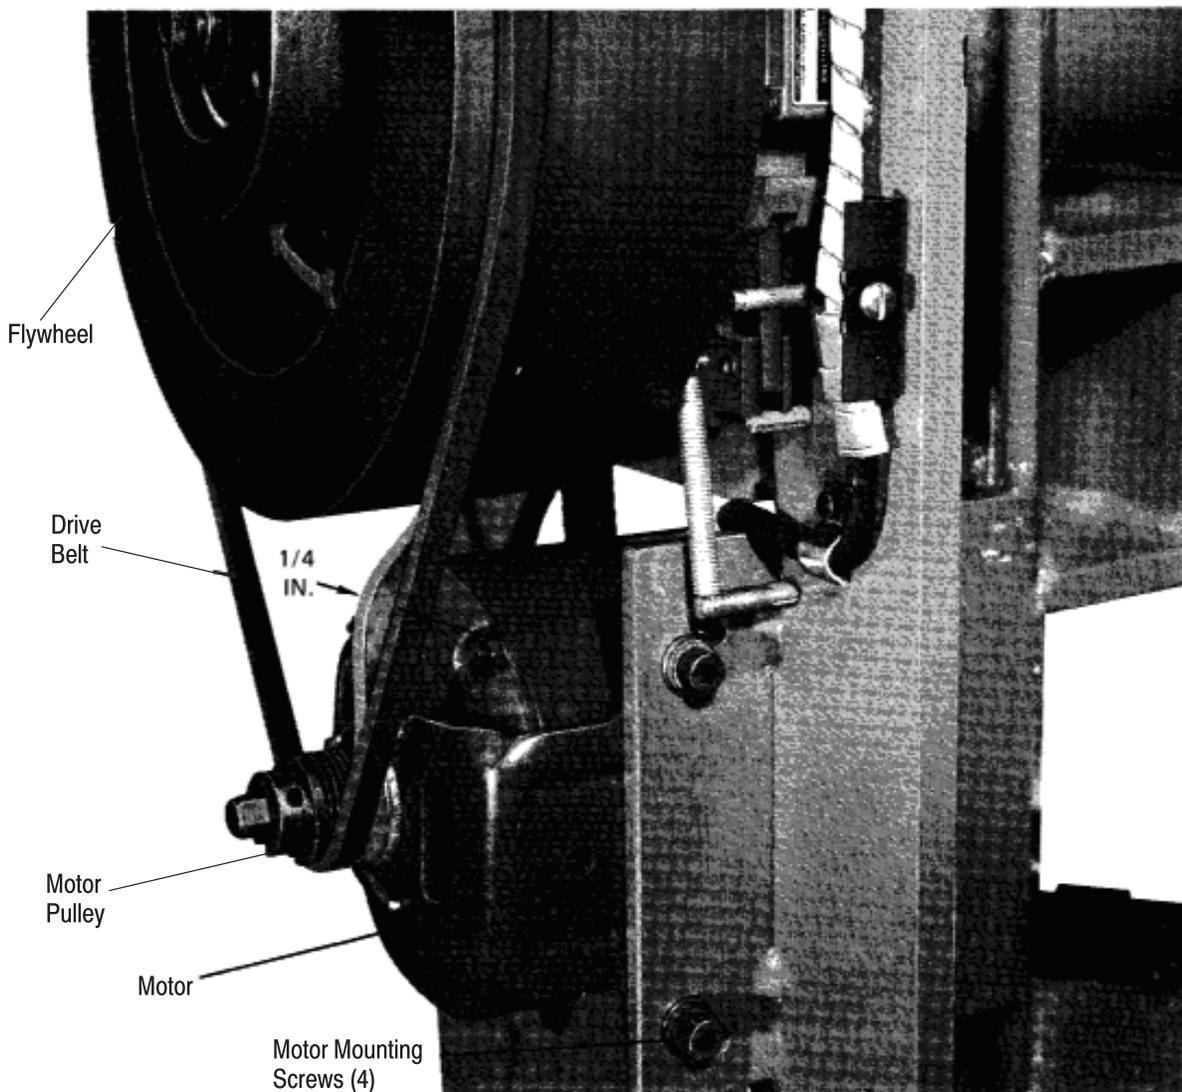

Figure 8
4.2. Drive Belt Tension and Alignment (Figure 8)**CAUTION**